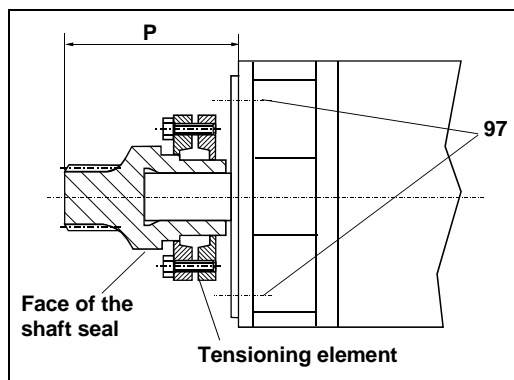

Figure 6: Distance P
6. Measure distance P (Figure 6), the dimension from the upper edge of the pinion to the motor flange (accuracy +/-0.1mm).